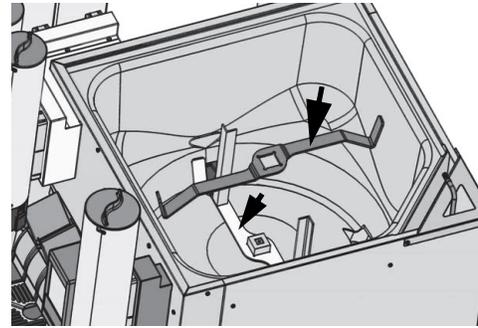

Figure 74.
The outlet tubes (1) are flexible and can be removed by removing the Oetiker clamps. The tube fittings (2) are locked in place by brackets (Figure 74, item 1 and 2). These brackets must be removed first to remove the fittings.